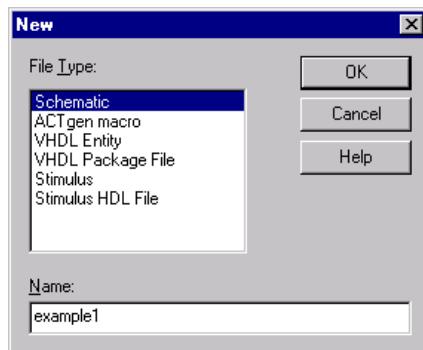

Figure 3. Libero's New File dialog box
1. From the File menu, click *New* again or double-click on *ViewDraw* in the process window. The New File dialog box is displayed (Figure 3).